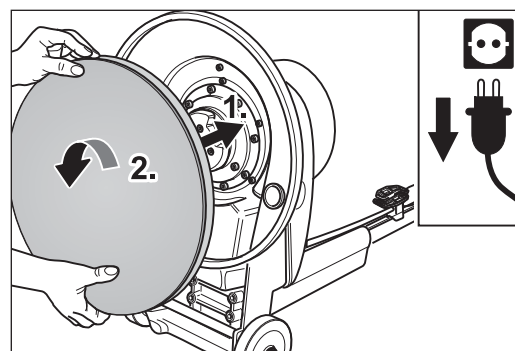

Fig. 5 Push on the sanding plate and turn it anti-clockwise until it reaches the mechanical stop.
**6** Push the sanding plate centrally onto the gear mount and turn it anti-clockwise until it reaches the mechanical stop (Fig. 5).